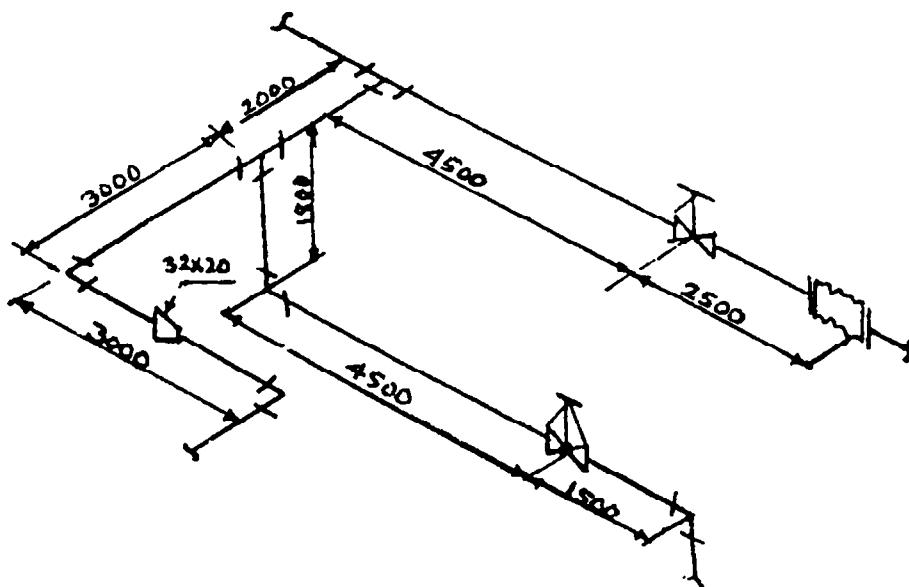

Fig. No. 2
- b) Draw a single line developed orthographic view of piping system shown in Figure No. 2